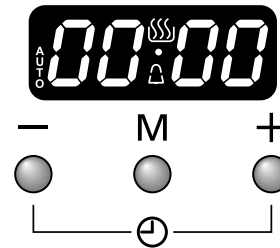

Fig. 5.1
1. The LCD clock is shown in (**Fig. 5.1**). Once the cooker is connected and switched on, the display flashes (00.00) and the time starts from (00.00).